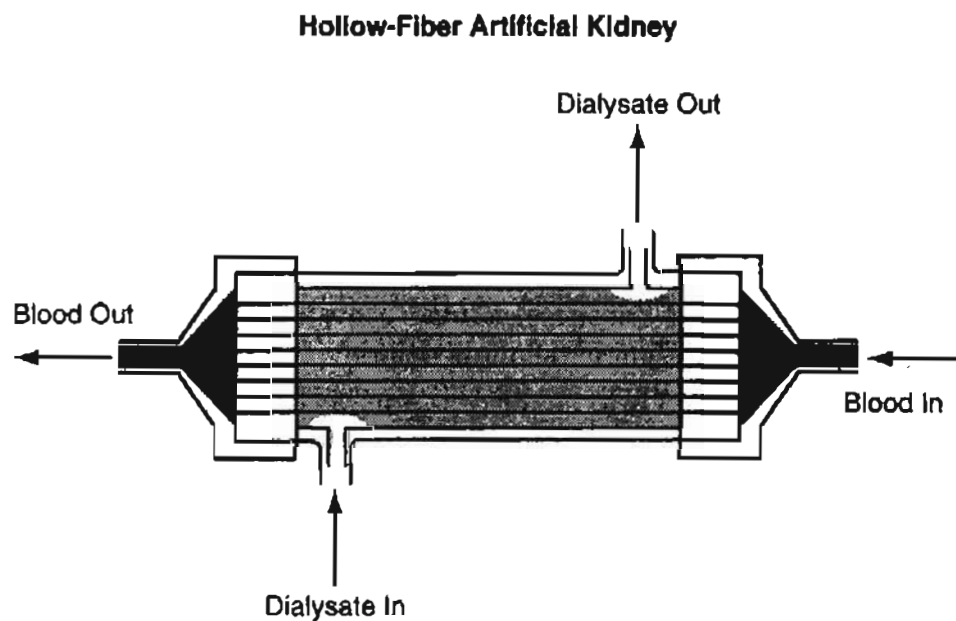

Figure P8.4
- *8.4 Figure P8.4 is a sketch of an artificial kidney, a medical device used to remove waste metabolites from your blood in cases of kidney malfunction. The dialyzing fluid passes across a hollow membrane, and the waste products diffuse from the blood into the dialyzing fluid.